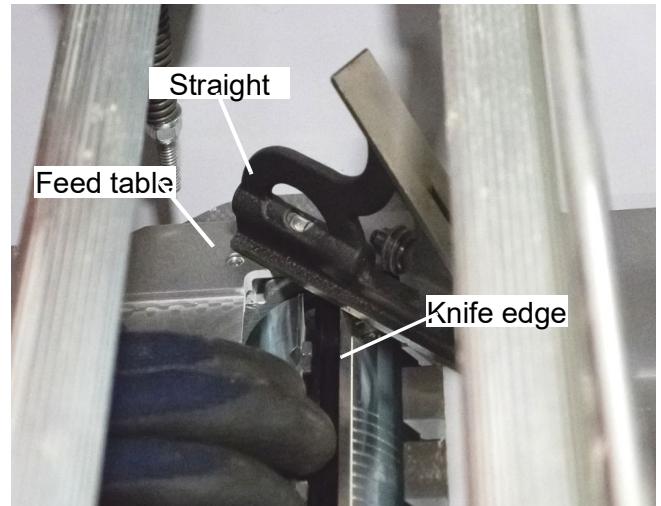

FIG. 3-8
1. Place the straight edge across the corner of the cast iron table bed. (The base of a combination square is shown as the straight edge.) See FIG. 3-8 ..